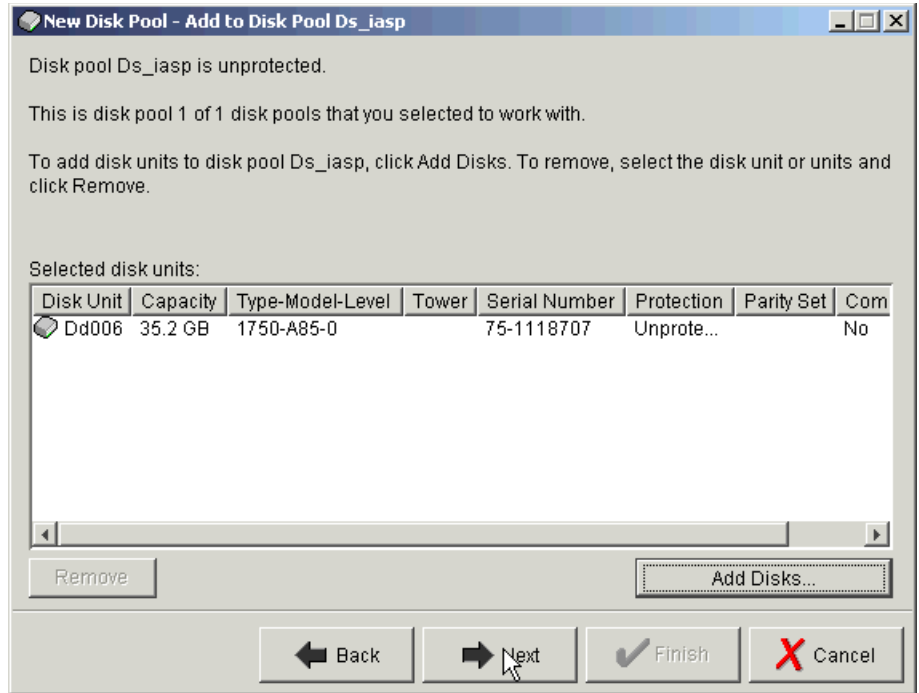

Figure 18-14 Confirm disks to be added to Disk Pool
11. A confirmation screen appears as shown in Figure 18-14. Click **Next** to continue.